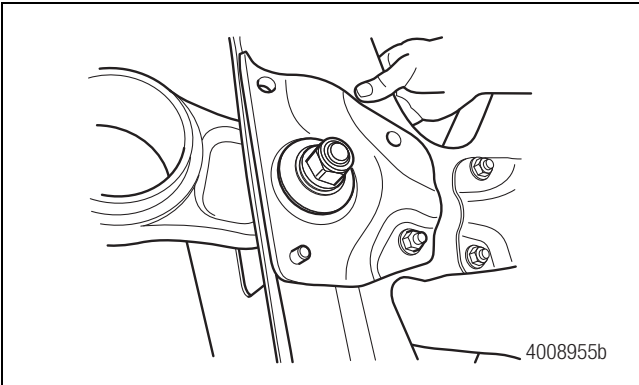
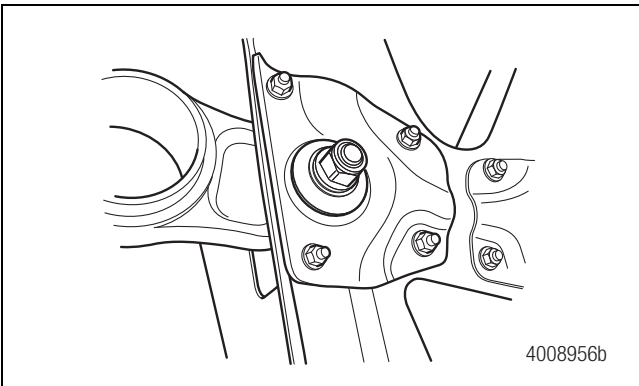

Figure 5
Figure 6
21. Install the supplied locking flange nuts and tighten to 150 lb-ft (203 N•m). Figure 5 and Figure 6.